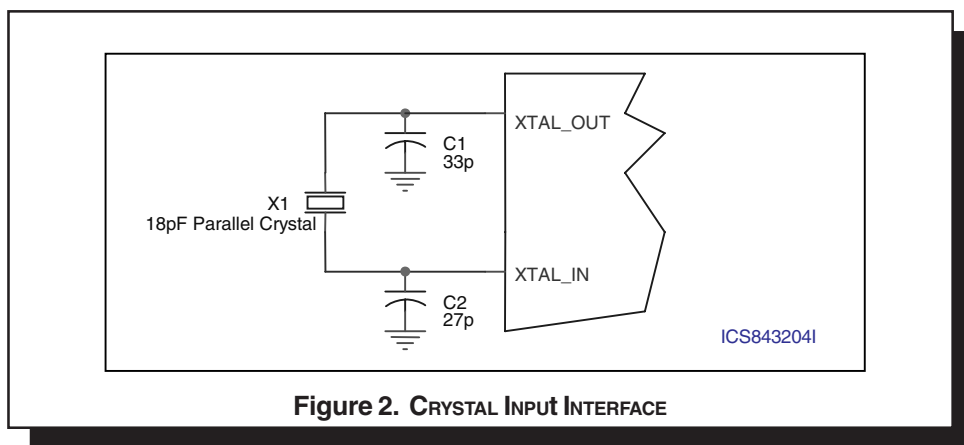

Figure 2. CRYSTAL INPUT INTERFACE
*Figure 2* below were determined using an  $18\text{pF}$  parallel resonant crystal and were chosen to minimize the ppm error.